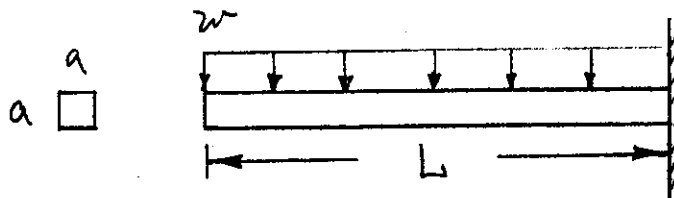

Figure 4
5. A beam has a square cross section and is subjected to a uniform distributed load w (figure 4) EI and G are constant. a. What is the normal stress distribution along the cross section?(5%) b. What is the strain energy of the beam due to the bending? (5%) c. What is shear stress distribution along the cross section?(5%) d. What is the strain energy of the beam due to the shear? (5%)